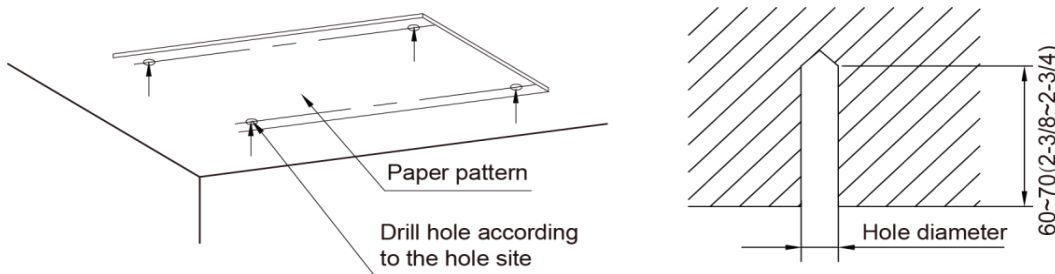

Fig4
- a. Cut out the paper pattern, stick the cardboard template onto the installation position(Fig4).
- b. Drill 4 holes using the hole pattern on the cardboard template as shown in Fig4.
- c. The diameter of hole to be drilled is determined by the diameter of expansion bolt and the depth is 60-70mm (2-3/8~2-3/4 in.), as shown in Fig4.